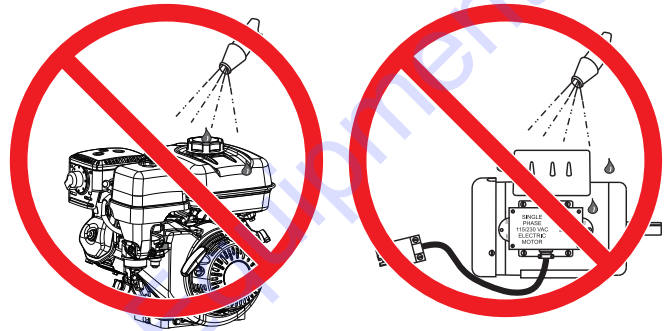

Figure 49. No Spraying of Water
**NEVER** pour or spray water over the engine or electric motor (Figure 49).